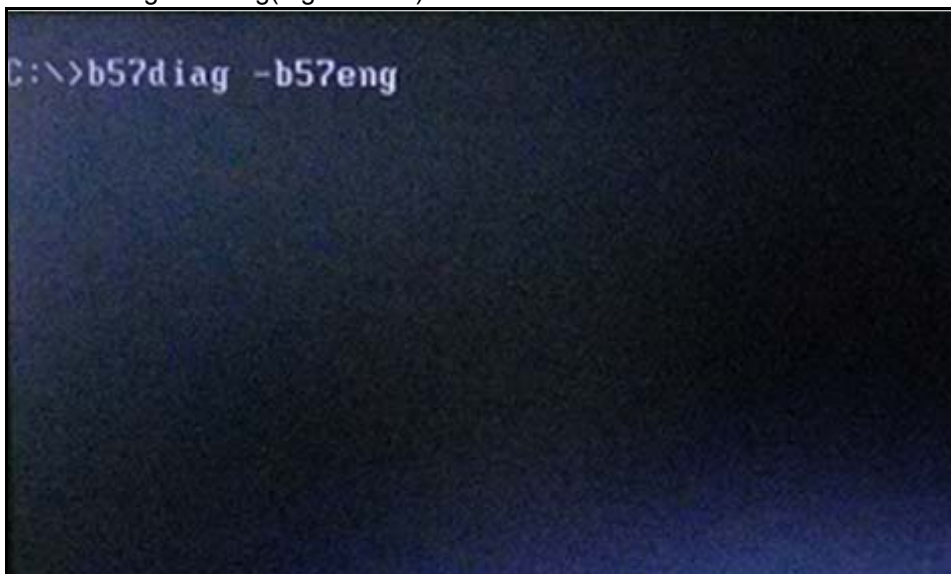

Figure 2-31. Execute MAC TOOL
7. Run B57diag -b57eng(Figure 2-31).